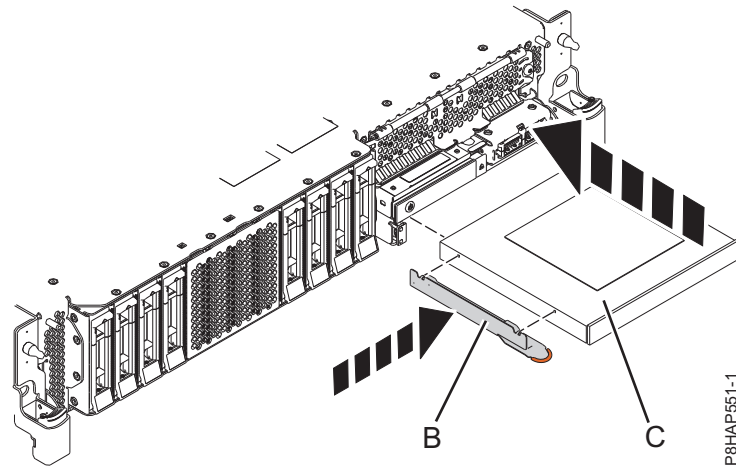
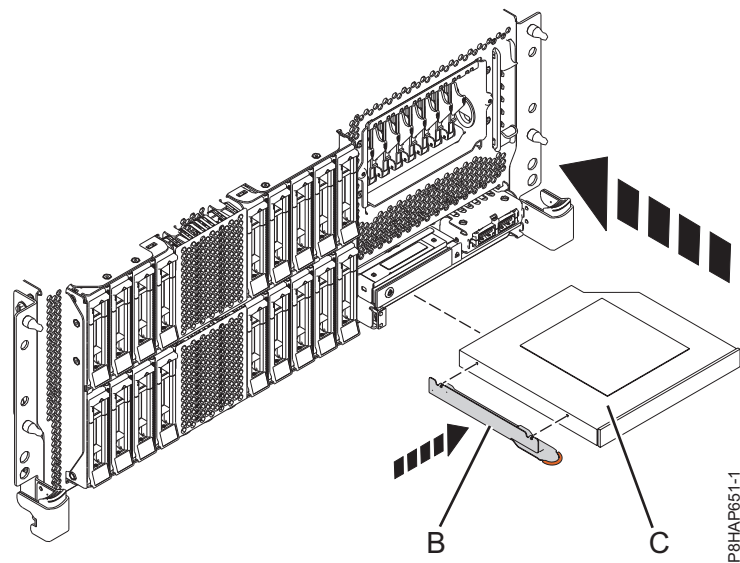
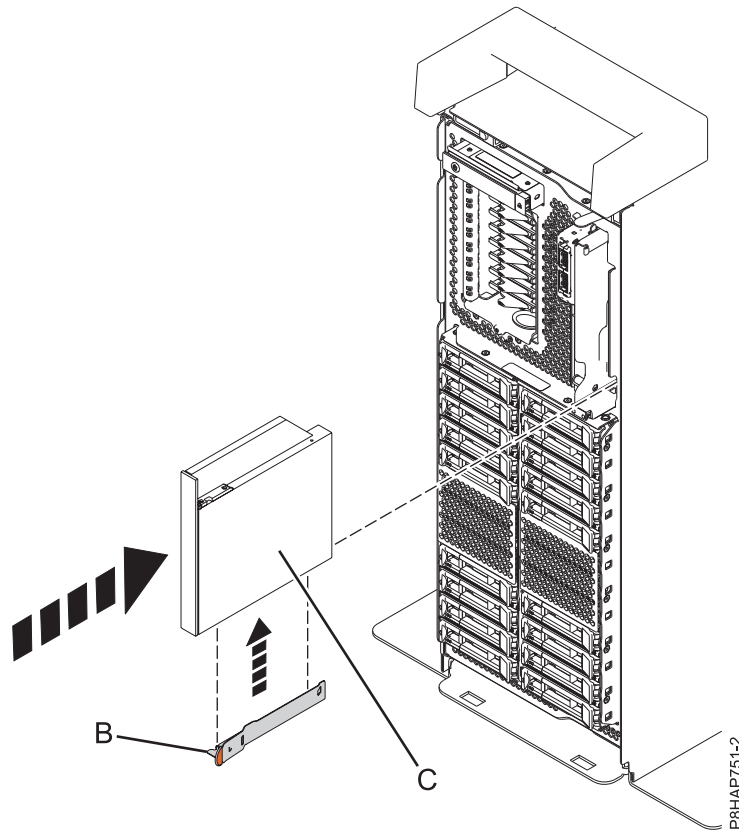

Figure 12. Installing a Slimline media device in an 8284-21A or 8284-22A system
Figure 13. Installing a Slimline media device in a rack-mounted 8286-41A or 8286-42A system
Figure 14. Installing a Slimline media device in a stand-alone system
5. Attach the retaining-bracket (**B**) to the new Slimline media device, as shown in Figure 12 on page 15 for an 8284-21A or 8284-22A system, Figure 13 on page 15 for a rack-mounted 8286-41A or 8286-42A system, or Figure 14 on page 16 for a stand-alone 8286-41A system.
For an 8284-21A or 8284-22A system, see Figure 12, for a rack-mounted 8286-41A or 8286-42A system, see Figure 13, or for a stand-alone 8286-41A system, see Figure 14 on page 16.